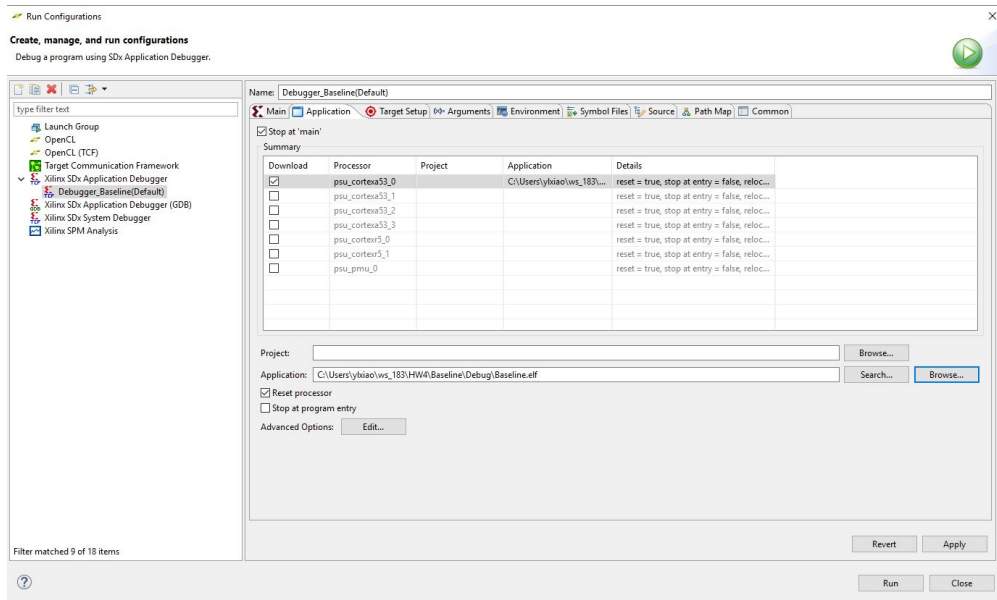
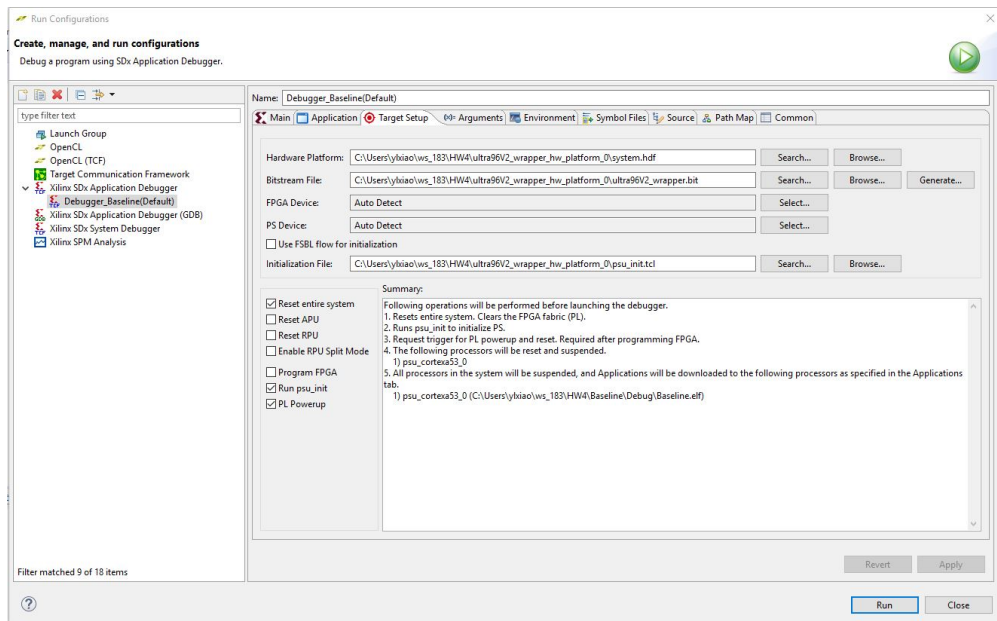

Figure 2: Debugger Application Configurations for Baseline
Figure 3: Debugger Target Setup Configurations for Baseline
- (a) Measure the latency and size of the **Baseline** project at the different optimization levels. As we create the project in SDK, you need to run and debug the *Baseline* project in a different way. Click *Run* → *Run Configurations*. Choose *Debugger Baseline (Default)*. Specify the elf file in *Application* tab as Figure 2 and configure *Target Setup* as Figure 3. Click *Run*. Put your measurements in a table like Table 1. You can change the optimization level as follows: Right-click on the project in the *Project Explorer*, and select *C/C++ Build Settings* from the popup menu. In the *Settings* tab, go to *ARM v8 gcc compiler* → *Optimization*, and select
- (b) Include the assembly code of inner loop of `Filter_horizontal` at optimization level `-O0` in your report. Click *Run* → *Debug Configurations*. Choose *Debugger Baseline (Default)*. Specify the elf file in *Application* tab and configure *Target Setup* as Figure 3. Click *Debug* to enter the debug mode.